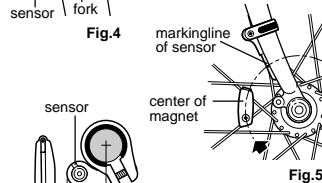

Fig.4
2. Mount the adjusted bands to the fork along with the sensor, by temporarily tightening the screw(fig. 4).